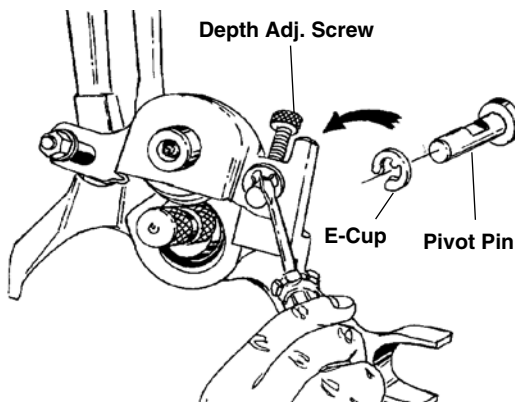

Figure 14 – Remove E-Ring
1. Remove E-Ring that holds pivot pin. (Figure 14)